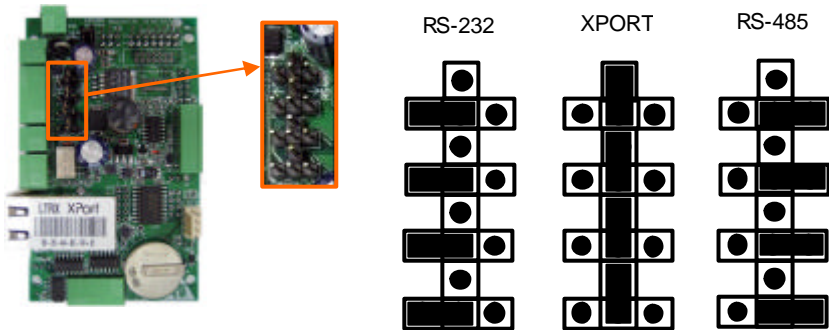

Figure 8. RS-232 / TCP/IP / RS-485 connection selector switch (V3 board)
Standard dry contact relay, configurable in normally open (NO) and/or normally closed (NC) (see Figure 8 below).